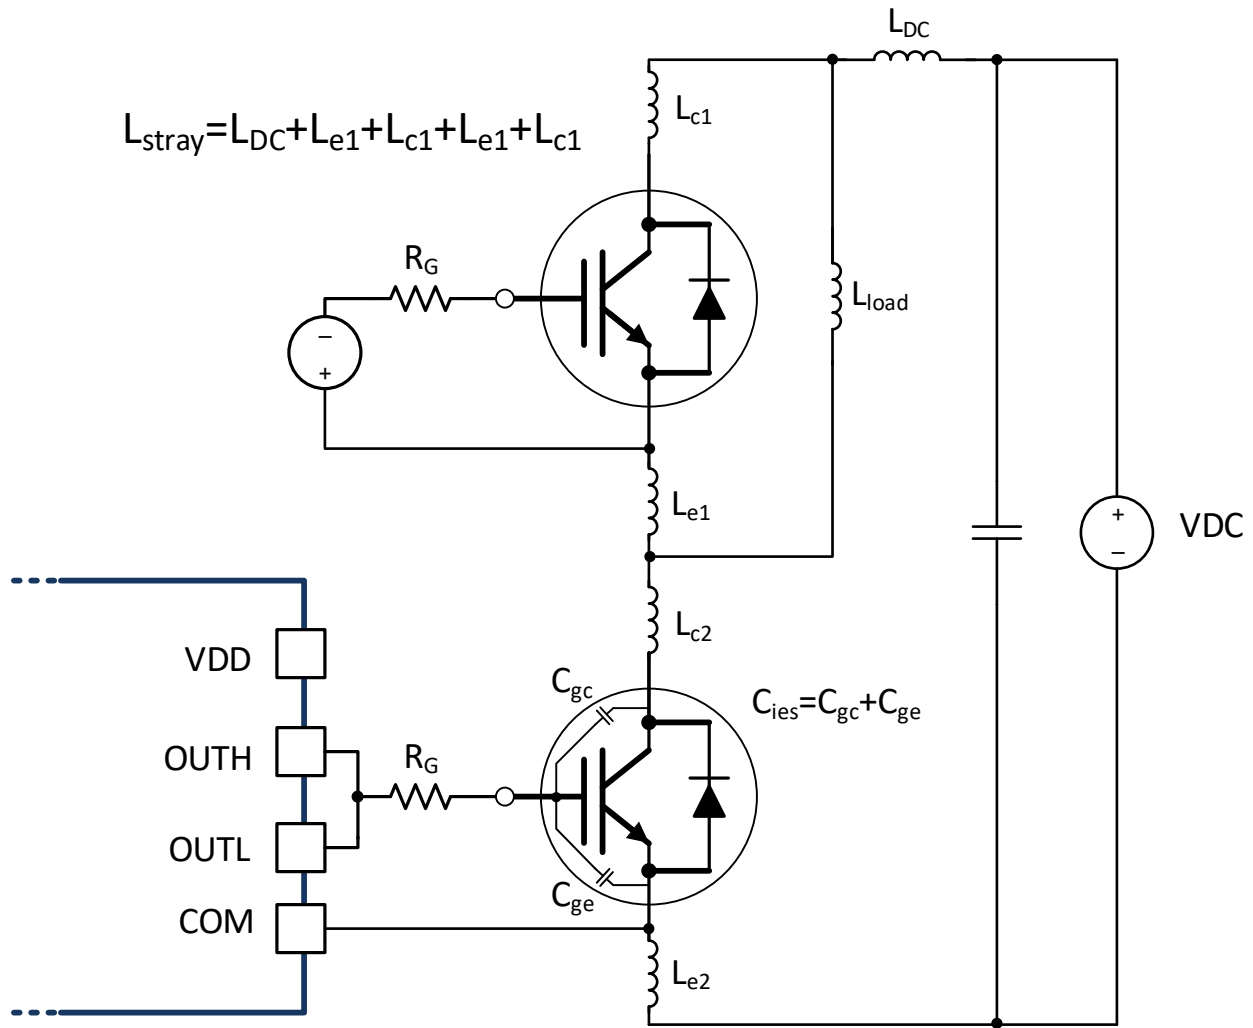

图 44. Stray Parasitic Inductance of IGBTs in a Half-Bridge Configuration
- L_{stray} is the stray inductance in power switching loop, as shown in 图 44